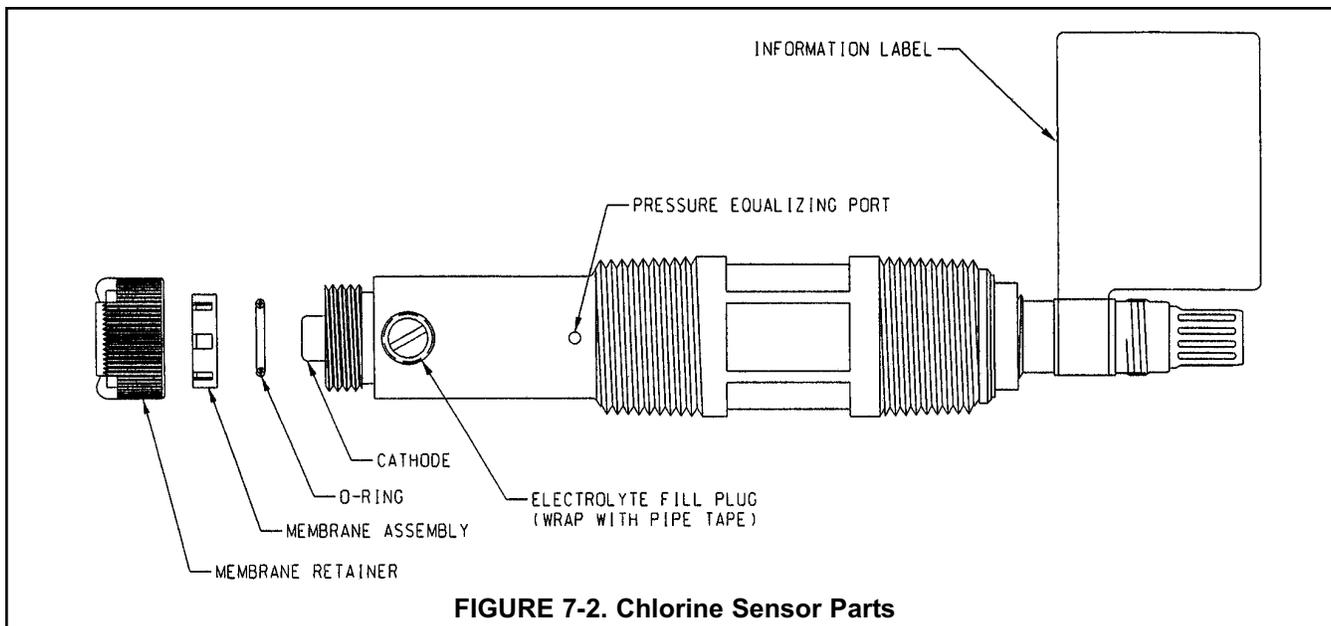

FIGURE 7-2. Chlorine Sensor Parts
1. Unscrew the membrane retainer and remove the membrane assembly and O-ring. See Figure 7-2.
10. Insert a small **blunt** probe, like a toothpick with the end cut off, through the pressure equalizing port. See Figure 7-2.